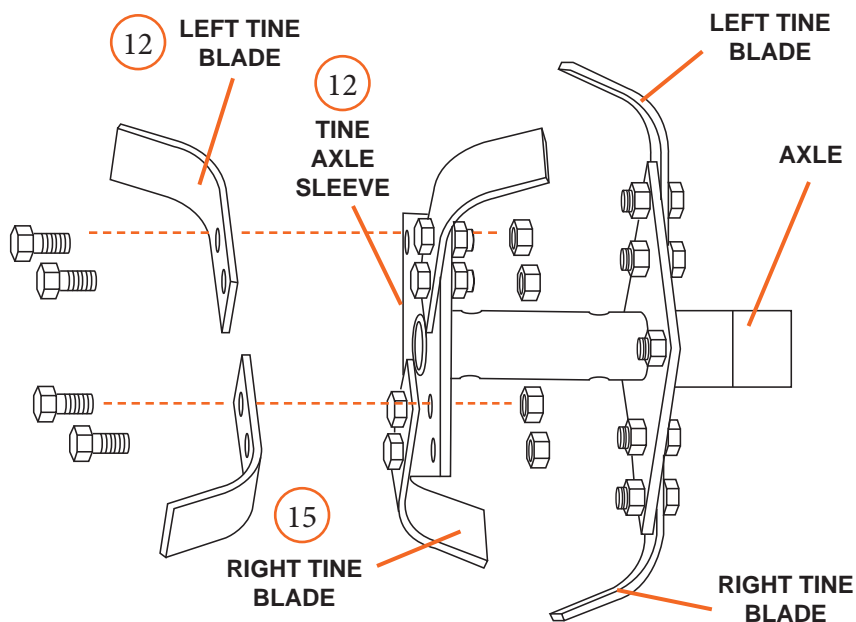

Figure 1
1. Attach left and right tine blades to the tine axle sleeve with a hex nut and hex bolt (see Figure 1). Blades should alternate direction diagonally, one pair facing in, one pair facing out on each sleeve.